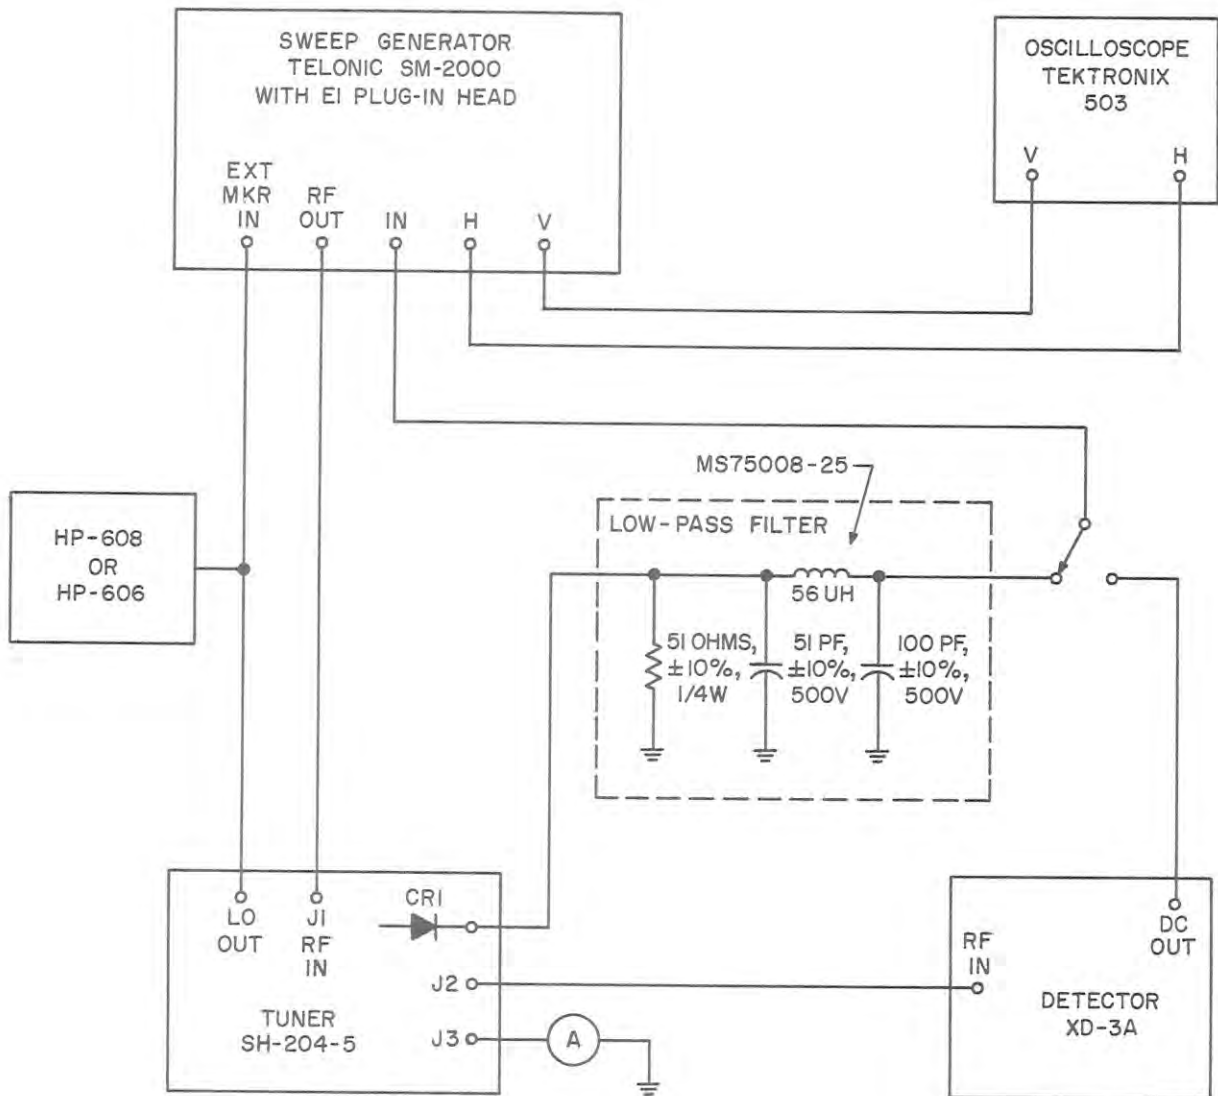

Figure 5-10.1. 490-1000 MC RF Tuning Head, SH-204-5, 60 MC IF Amplifier, Test Setup.
- n. Connect test equipment as shown in Figure 5-10.1. Calibrate the signal generator at 60 mc. Construct the lowpass filter as shown using components values specified.
- o. Adjust the oscilloscope vertical sensitivity to 1.0 mv/cm. Adjust the horizontal sensitivity as required for full scale deflection. Connect the lowpass filter to mixer diode CR1 as shown in Figure 5-10.1. The XD-3A detector should be disconnected from the sweep generator at this time. Adjust the RF level of the signal generator and the marker adder control of the sweep generator for a small marker on the oscilloscope.
- r. Disconnect the lowpass filter and the milliammeter from the test setup and then connect the XD-3A detector as shown in Figure 5.10.1. Do not change the position of any control.